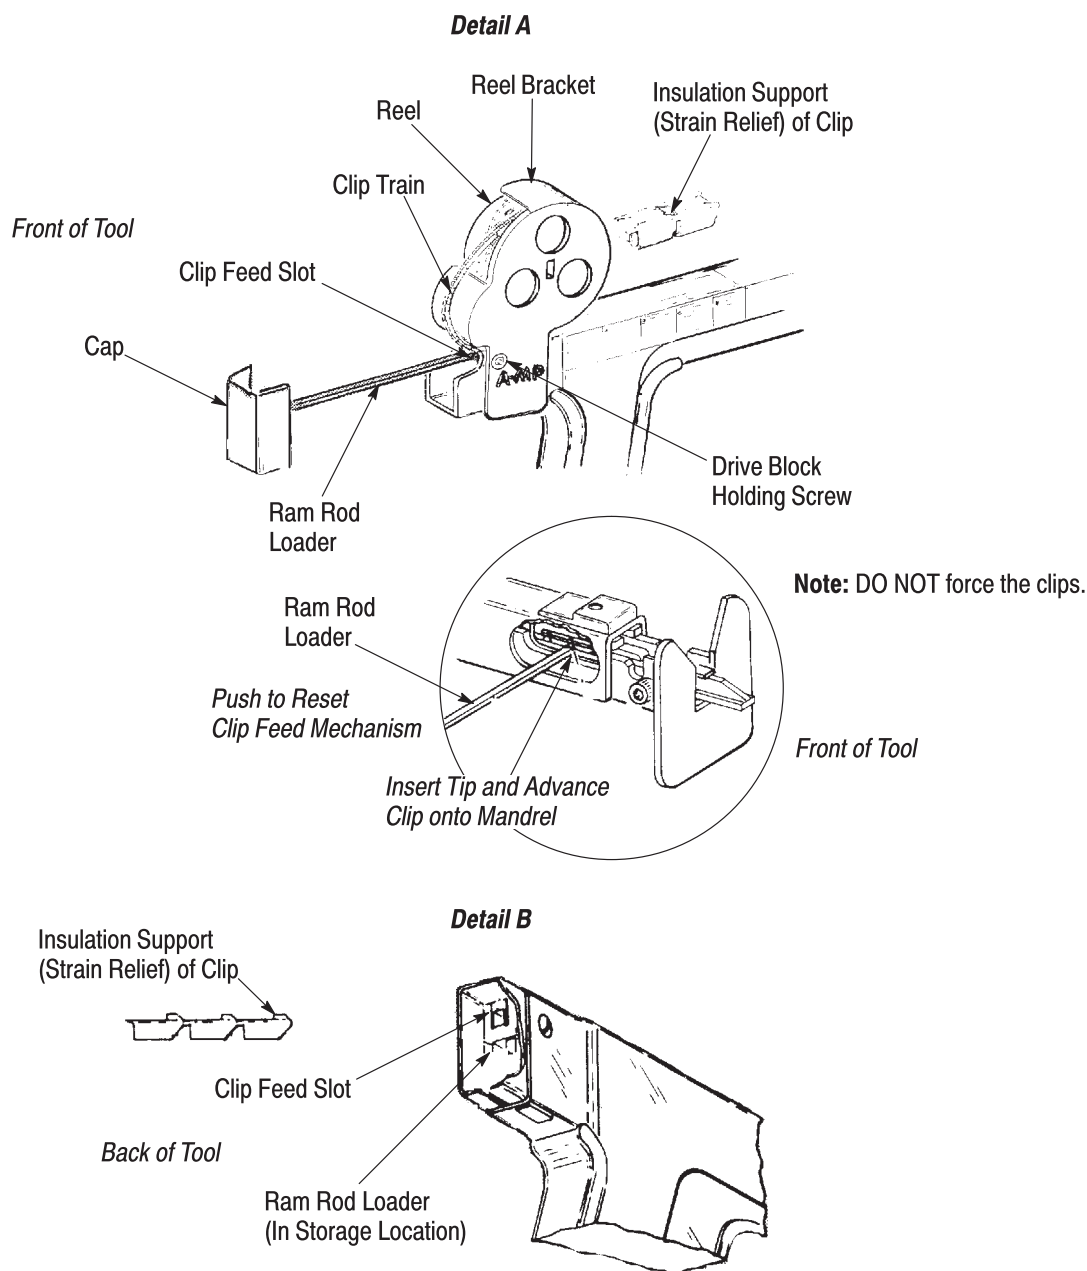

Figure 5
2. Free the exposed end of the clip train on the reel, and place the reel onto the reel bracket with the clips feeding from the bottom of the reel. See Figure 5, Detail A. Ensure that the clips are straight and the insulation supports (strain reliefs) of the clips are "up" and face toward the front of the tool. See Figure 5, Detail B.
3. Insert the clips into the clip feed slot. The insulation support (strain relief) of the clip must be "up" and facing toward the front of the tool. See Figure 5, Detail B.
4. Use the ram rod loader, attached to the cap on the back of the tool, to push clips into the clip feed slot until the strip is visible in the hole in the side of the tool. DO NOT FORCE THE CLIPS. See Figure 5, Detail A.
6. Return the ram rod loader to the ram rod storage location of the tool. See Figure 5, Detail B.